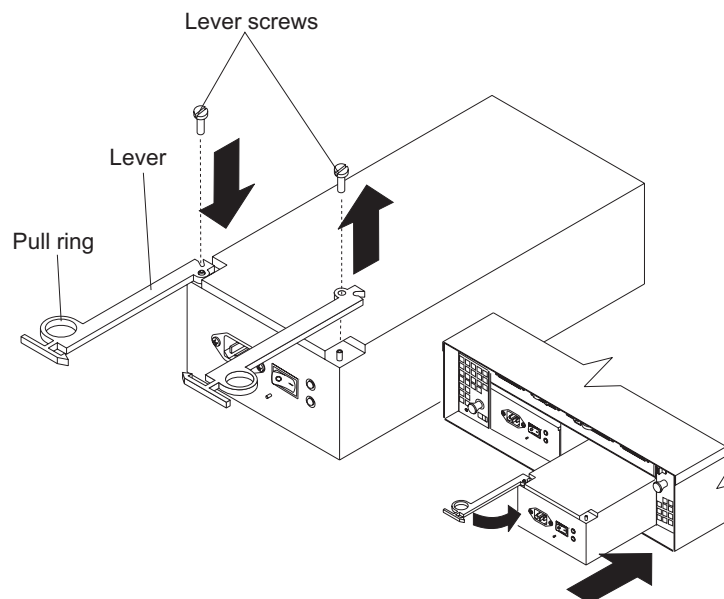

Figure 48. Moving the power supply lever and replacing the failed hot-swap power supply
**Note:** Before you replace the failed power supply, ensure that the new power supply lever is attached to the side of the power supply that faces the middle of the expansion enclosure. If it is not, remove the lever screw, flip the lever over, and tighten the screw on the opposite side as shown in Figure 48.
- a. Slide the power supply into the expansion enclosure. Be sure that the lever is pulled straight out as you slide the power supply into the expansion enclosure (see Figure 48 on page 88).